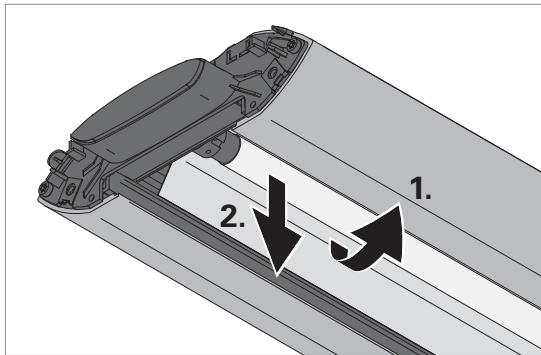

Fig. 18: Replacing the lamp.
- Rotate the lamp by 90° and take out the lamp toward the bottom, see Fig. 18.